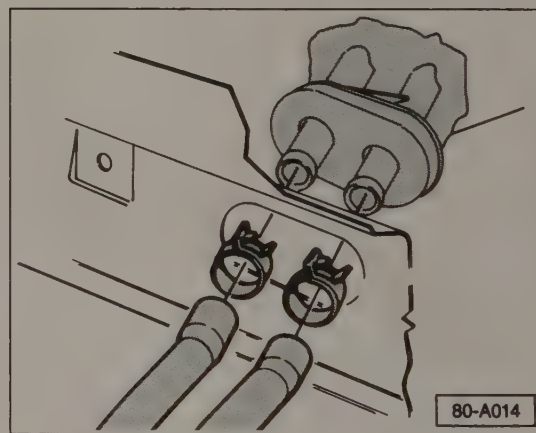

Fig. 4-17. Heater hose clamps and hoses to be removed from heater core. Remove clips by squeezing tangs.
3. Remove the two hose clamps and hoses from the heater core. See Fig. 4-17. They are accessible from inside the engine compartment. Plug the core openings to prevent coolant from spilling.